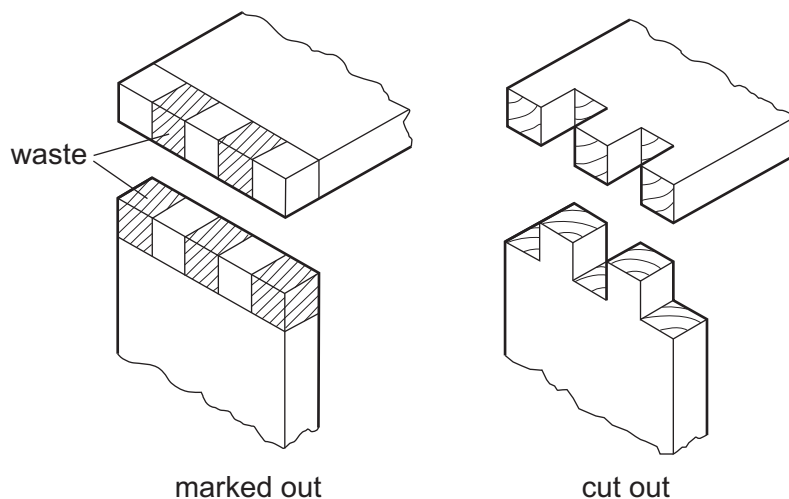

Fig. 2.1
- 2 Fig. 2.1 shows exploded views of a finger (comb) joint marked out and cut out.